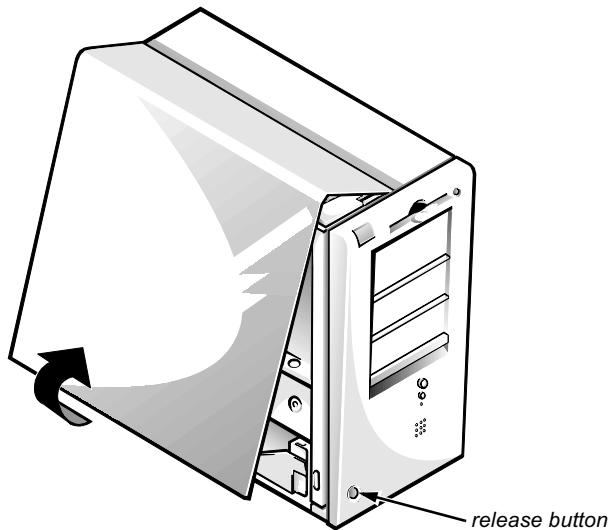

Figure 6-1. Computer Cover Removal
- 2. Facing the left side of the computer, press the release button at the bottom-left corner of the front bezel (see Figure 6-1).**